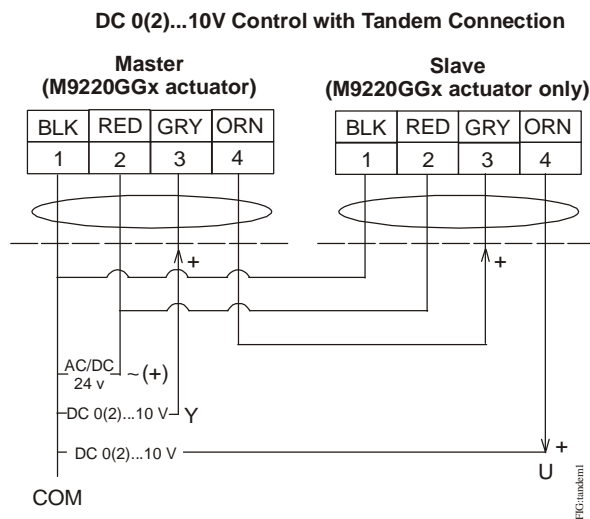
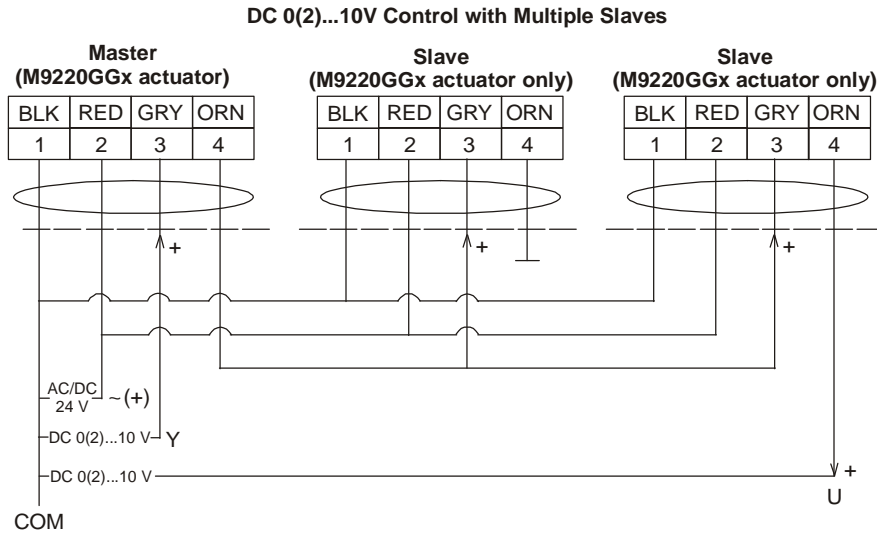

Figure 14: Tandem Connection
Figure 16: Tandem Connection with Three Actuators
The tandem configuration (Figure 14 and Figure 16) provides twice (with two actuators) or triple (with three actuators) the running and spring return torque of a single actuator, or 354 lb-in (40 N·m), 531 lb-in (60 N·m). The actuators may be mounted in tandem using the M9000-158 Tandem Mounting Kit. To mount a third actuator, user-configured bracketing is required.
- Two or three M9220-GGx-3 actuators may be operated in tandem on the same shaft. If mounting two actuators, see Figure 14; for three actuators, see Figure 16.